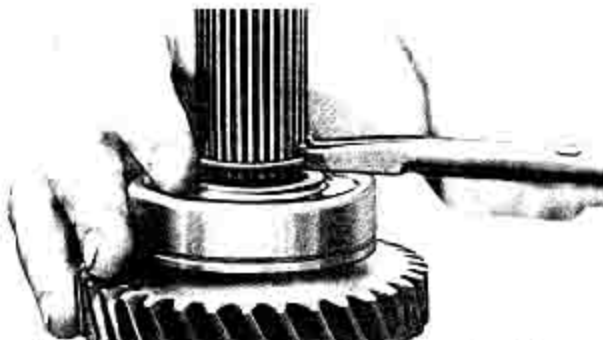

Fig. 8 Removing or Installing Rear Bearing Snap Ring
2. Remove rear bearing-to-mainshaft snap ring and flat washer from the mainshaft (Figure 8).
5. Install flat washer and new snap ring on mainshaft behind rear bearing (Figure 8).